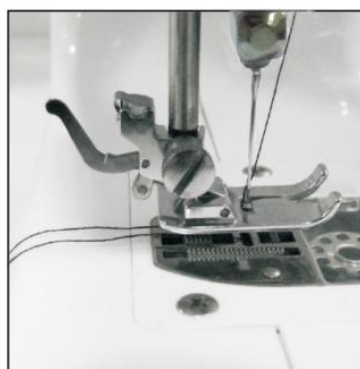

Fig.10
- 4) Replace the bobbin cover and separate the two threads and pull them to the back of the machine under the presser foot, leaving about 15cm hanging there. (Fig. 10)